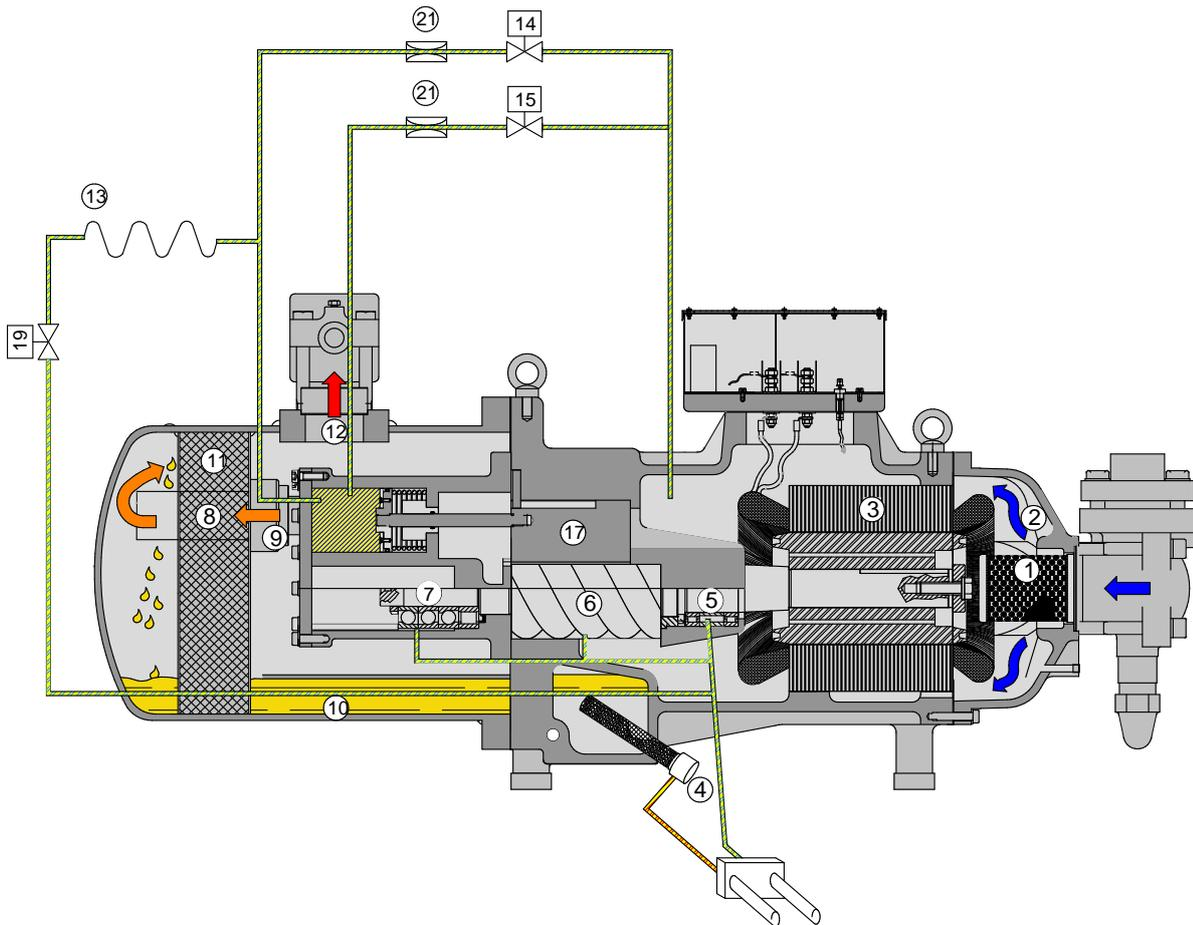

Fig. 9: diagram of the internal oil circuit for lubrication and operation of the slide valve;
The lubricant is held in the bottom of the housing and in the oil separator. As shown in Fig. 9, the oil separator of the PS3 compressors is connected directly to the front of the compressor flanged casing.
The high-pressure oil-gas mixture undergoes to a separation process in the 'DEMISTER', part (11) in Fig. 9 (see paragraph 3.4 'Oil separation'); then the oil is collected at the bottom of the oil separator while the gas leaves the compressor through the discharge shut-off valve located on top of the oil separator.
- ✓ actual filtering of the discharged gas by the "DEMISTER" (part (7) and (11) respectively in Fig. 9; variation in direction and speed of the compressed refrigerant-oil mixture).
The compressors are fitted with a high efficiency oil filter. In models PS3-H040/H050/H060 this is located inside the compressor, and therefore to be inspected the discharge bell and the oil separator need to be removed. In the remaining models of the PS3 series, on the other hand, the oil filter is positioned on the bottom of the crankcase, as shown in Fig. 91, and as a result it is easily accessible from the outside of the compressor. For further details on the position, see chapter 8: "*Dimensional drawings and packaging*".